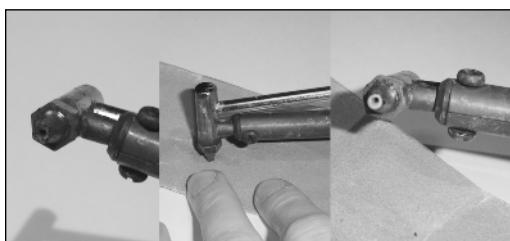

FIGURE 2-12: A desoldering iron tip before, during, and after cleaning.
- Keep the surface of the tip clean and flat—when it's gunked up, it won't melt solder as fast. Scrape it clean every so often using a piece of sandpaper. As with a soldering iron, when you can see the shiny metal again, you're good to go! (See Figure 2-12.)